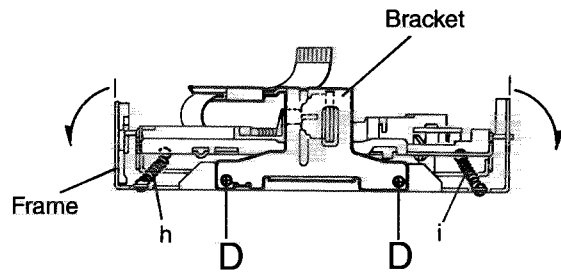

Fig.7
- 1.Remove the two screws D retaining the bracket for fixing the damper(See Fig.7)
- 3.Remove the two springs h and i as shown in Fig.1 and Fig.7.